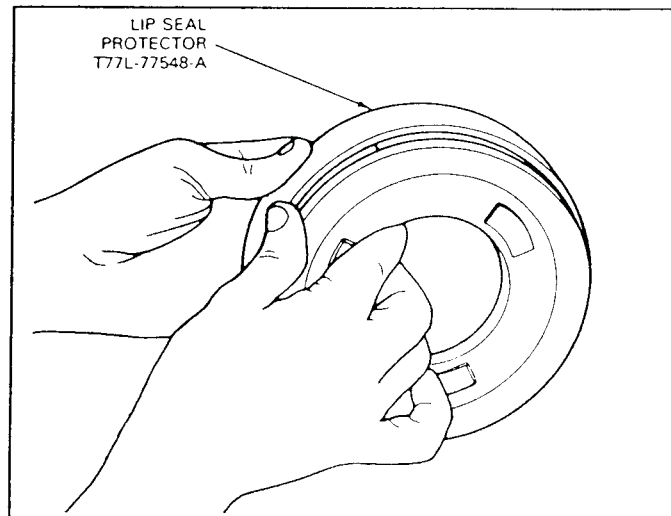

FIG. 51 Installing Forward Clutch Piston and Lip Seal
2. Install the clutch piston and lip seal with Lip Seal Protector, T77L-77548-A, (Fig. 51).